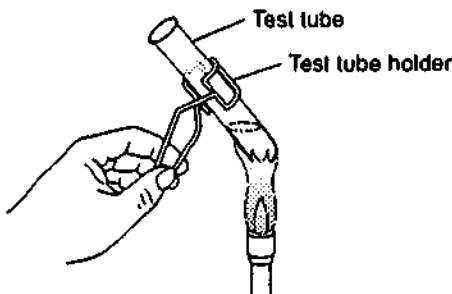

Figure 3
7. Half fill a test tube with tap water. Apply heat to the side of the test tube as shown in Figure 3. Notice that the top of the test tube is at an angle and pointed away from all people in the area.